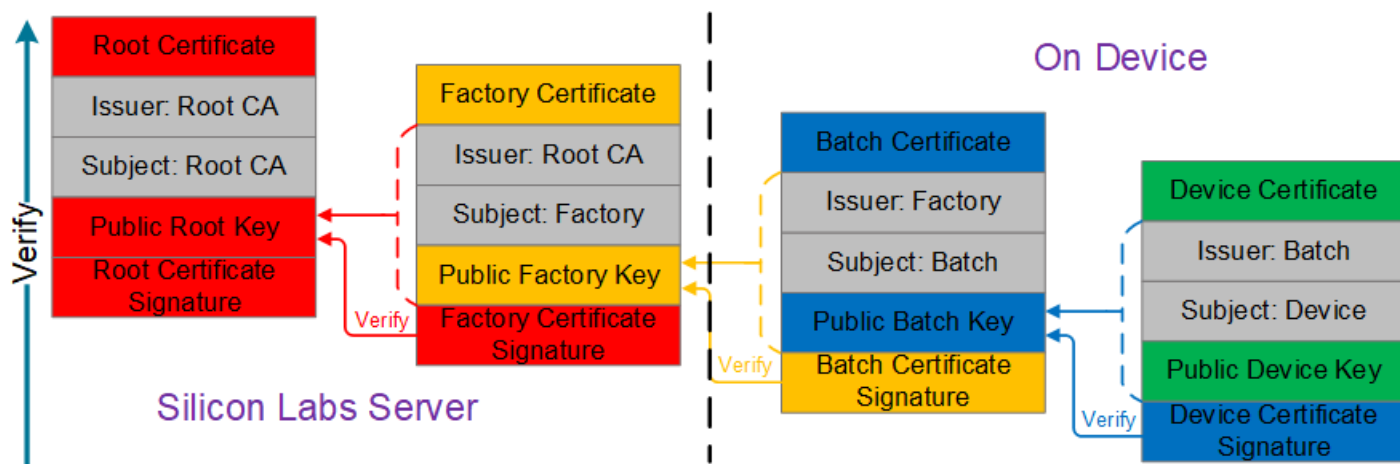

Figure 3.4. Verification for Certificates
The HSE-SVH devices are each programmed with a device certificate during IC production. The device certificate is signed with a Public Device Key, using a Private Batch Key that can be validated against a Silicon Labs certificate chain (Figure 3.4 Verification for Certificates on page 9 and 8.2 Certificate Chain Verification). The device private key never leaves the Secure Key Storage on the chip. Customers can create their own device certificates during their production.
3. The remote device validates each certificate in the chain using the public key of each Issuer (Figure 3.4 Verification for Certificates on page 9).